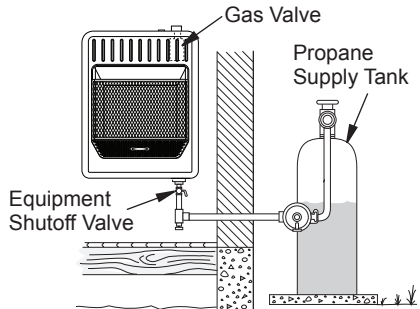

Figure 15 - Checking Gas Joints for Propane Gas
3. Check all joints from gas supply (see Figure 15 or 16) to equipment shutoff valve. Apply a noncorrosive leak detection fluid to all joints. Bubbles forming show a leak.
4. Check all joints from equipment shutoff valve to control valve (see Figure 15 or 16, page 15). Apply a noncorrosive leak detection fluid to all joints. Bubbles forming show a leak.